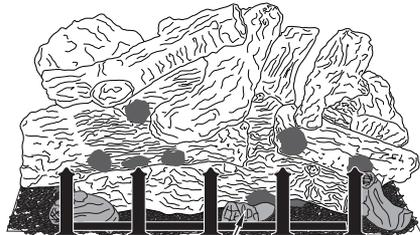

Figure 28 - Installing Scrap Log Pieces
6. Place scrap log pieces randomly behind grate as shown in Figure 28 on lava rock and around (but not on) burner ports.
7. Place grate in front of logs as shown in Figure 28. Be sure grate is balanced so it does not fall or lean onto logs. Grate does not attach to hearth assembly.